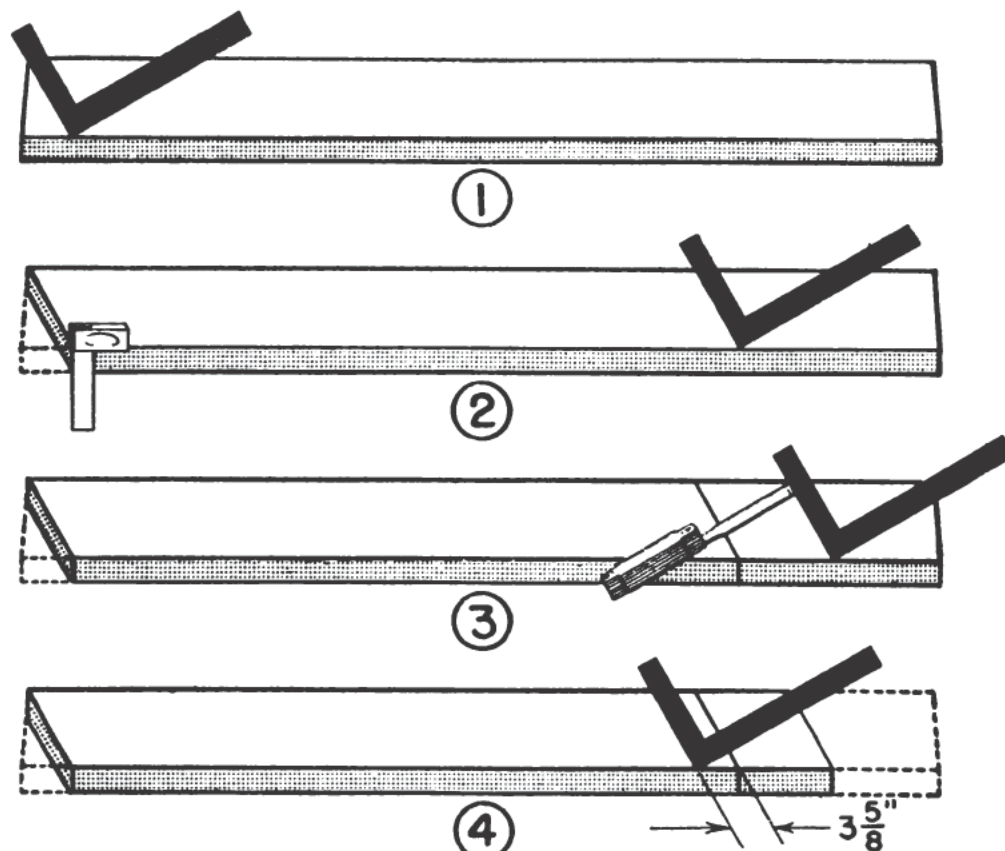

Figure 13-26.—Rafter lay out.
figure 13-26 (1). Mark along the tongue edge of the steel square, which will be the plumb cut at the ridge. Since you know that the length of the rafter is 12 feet, measure that distance from the top of the plumb cut and mark it on the material. Hold the square in the same manner, with the 8 marks of the tongue directly over the 12-foot mark. Mark along the tongue of the square to give the plumb cut for the seat, as shown in figure 13-26 (2). Then you measure off, perpendicular to this mark, the length
of overhang along the timber and make a plumb-cut mark in the same manner, keeping the square on the same edge of the timber, as shown in figure 13-26 (3). This will be the tail cut of the rafter; frequently the tail cut is made square across the material.
in figure 13-26 (4). Using the try square, square lines down on the sides from all level and plumb-cut lines. (See figure 13-26 (4).) Now, you are ready to cut the rafter.